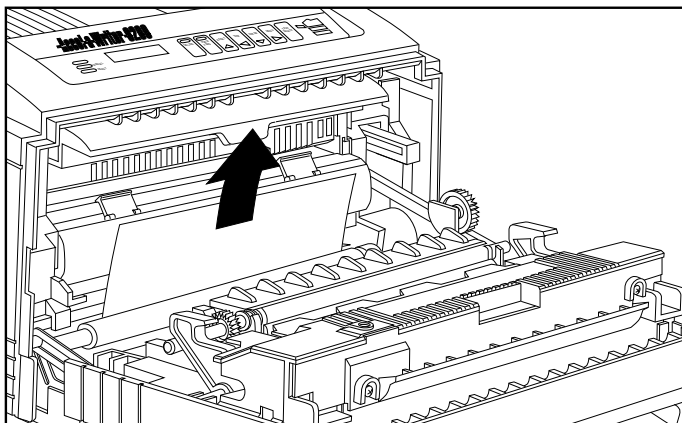

Fig. 10.2 Remove Media from the Roller Area
3. Check the pick up roller area for a jam. If found, remove the media by pulling it in the direction of the arrow in figure 10.2.